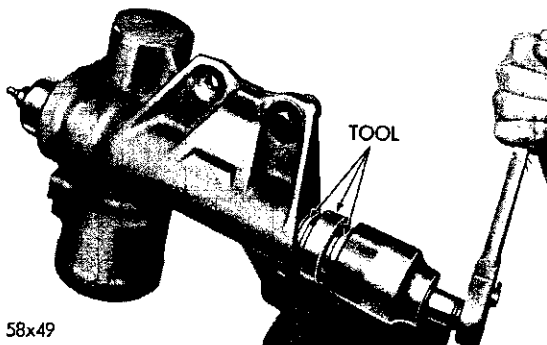

Fig. 39—Removing the Gear Shaft Oil Seal
(2) Remove the gear shaft outer oil seal with adapter SP-3056 and Tool C-3350 (Fig. 39) as follows: